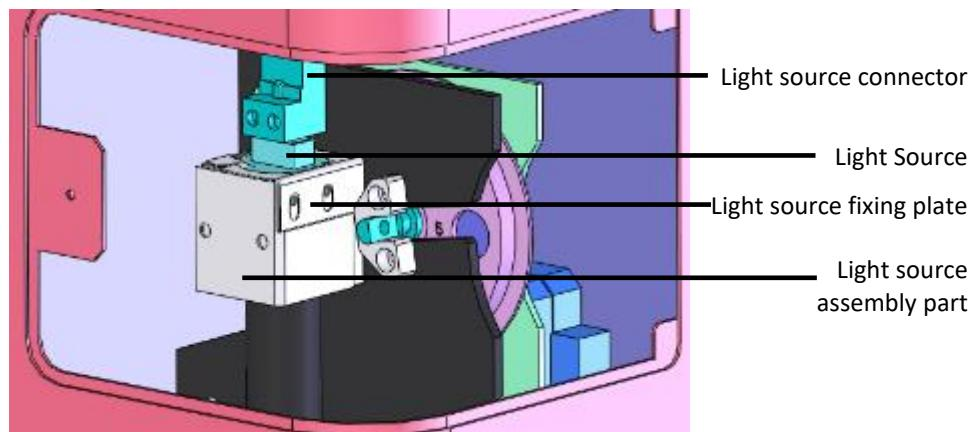

Fig 54: Position of light source
4. Replace a new light source by reversing the above steps, pay attention to the position of the light on the light source part, loaded flat and stable then fix the fixing plate (Fig54).